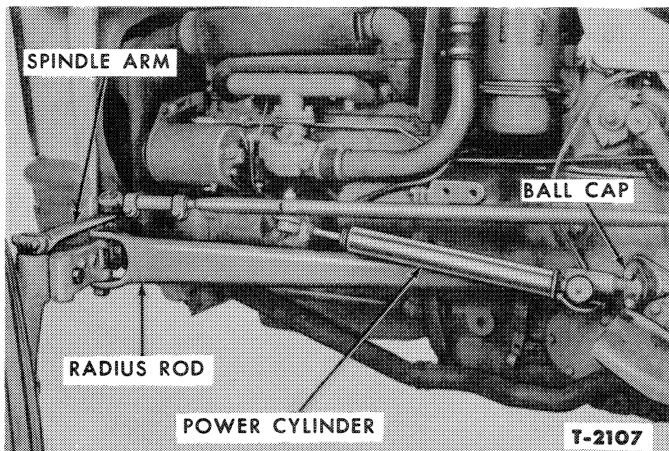

Figure 2—Removing Radius Rod
1. Remove two nuts and lock washers and remove the radius rod ball cap at the transmission, Figure 2.